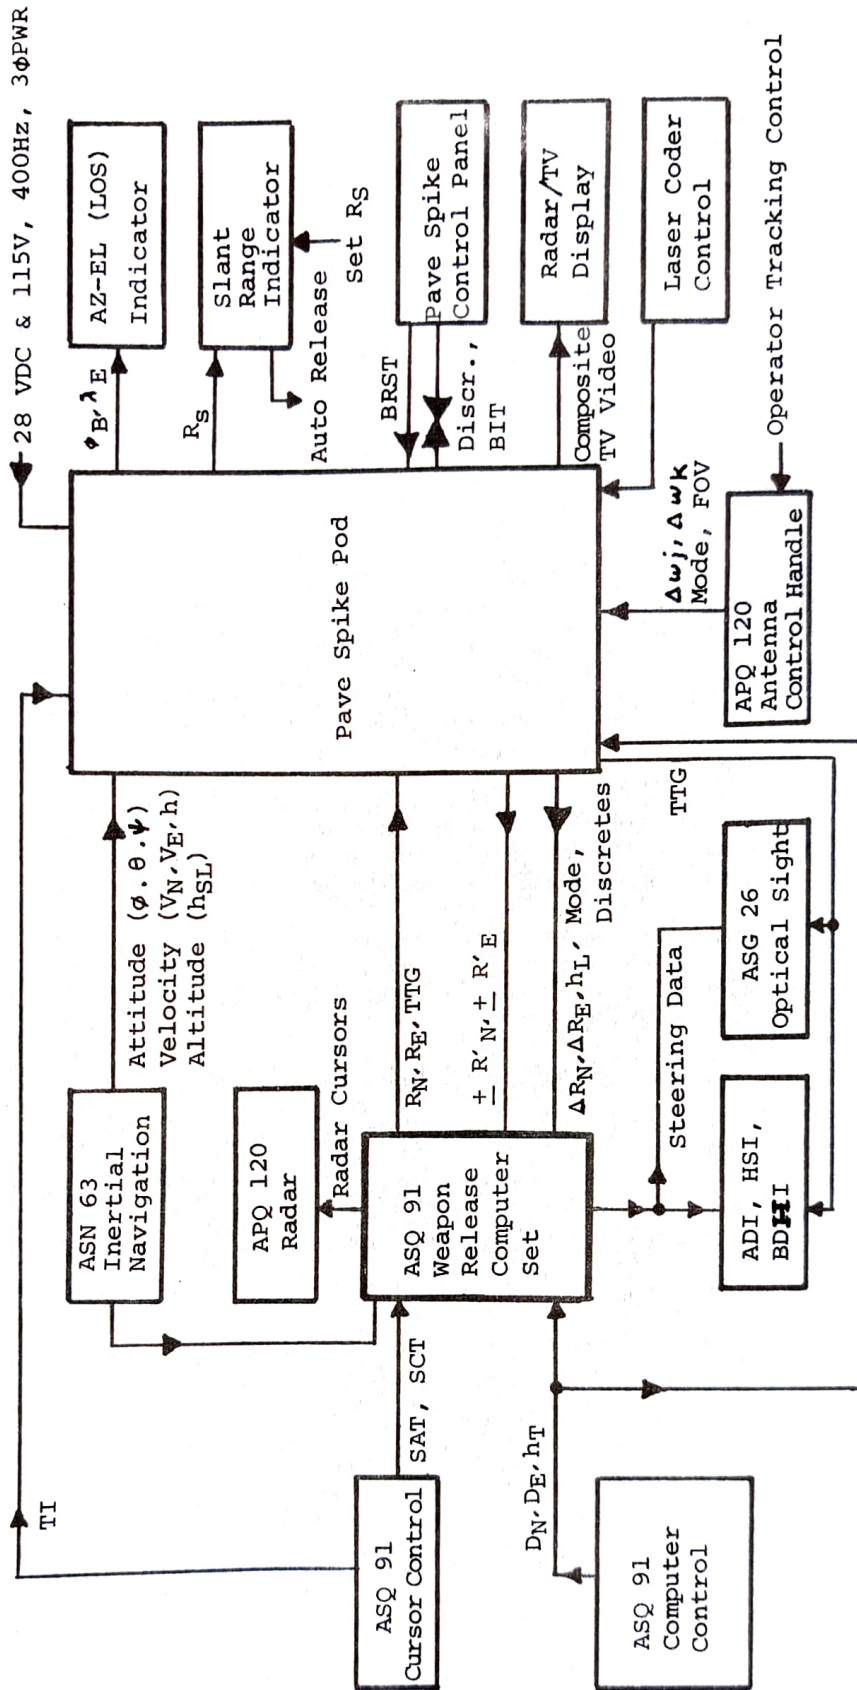

Figure 19, PAVE SPIKE F-4E Interface
1. The PAVE SPIKE pod is normally interfaced with the aircraft INS and WRCS. When fully integrated, all cockpit WRCS/INS indications are the same as in non-PAVE SPIKE operation, except, after PAVE SPIKE track is taken, off flags cover all distance measuring equipment (DME) windows. After track, the only range available is from the PAVE SPIKE slant range indicator. See Figures 19, 20, and 21.